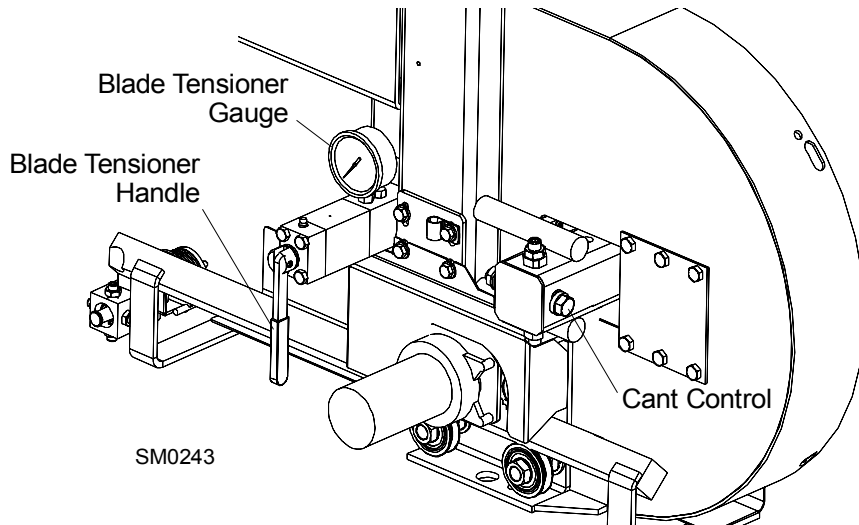

FIG. 2-6
See **Figure 2-6**. Tension the blade by turning the hydraulic tensioning handle clockwise until the tension gauge indicates the recommended tension.
4. To adjust where the blade travels on the blade wheels, use the cant control shown in **Figure 2-6**.